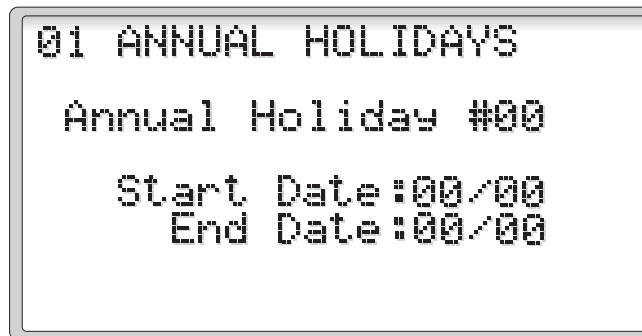

Figure 29
2.3.2.4 Annual Holidays (Figure 29)